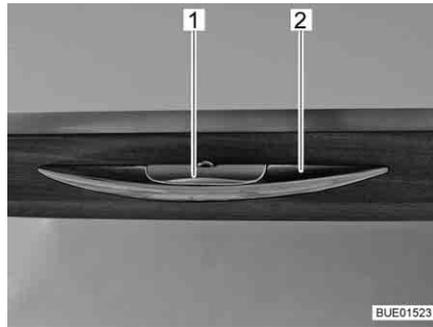

Fig. 70 Furniture flap with release handle
- Press the release handle (Fig. 70,1) and hold it down.
- Pull the handle (Fig. 70,2) until the furniture flap is open.